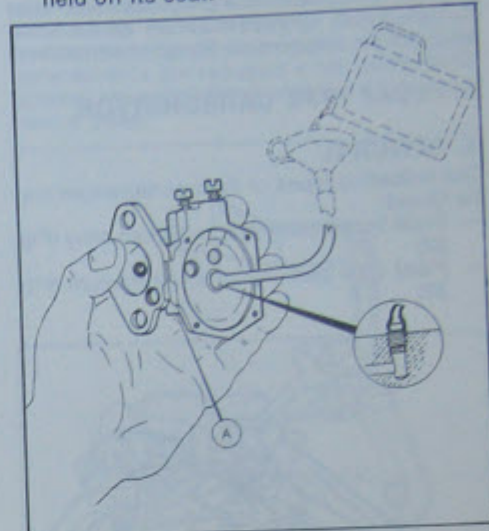

Fig. 30 Testing non-return valve
- Refit the needle valve seat (see Fig. 30). Supply petrol by means of a plastic pipe and check that petrol does not escape from the valve (A of Fig. 30) but readily flows past the valve when the inner disc is held off its seat.